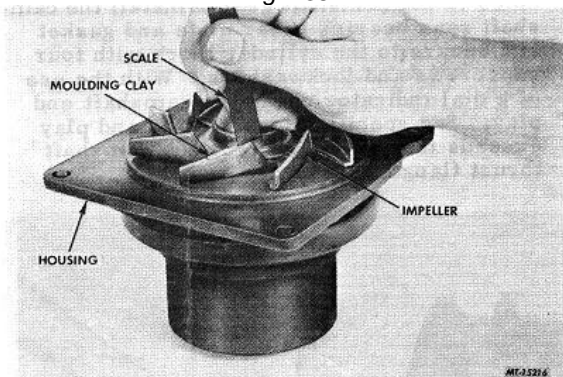

Fig. 139
- c. Remove pump assembly and check thickness of moulding clay, Fig. 139. If clearance exceeds the .015" dimension, the fan hub and snap ring will